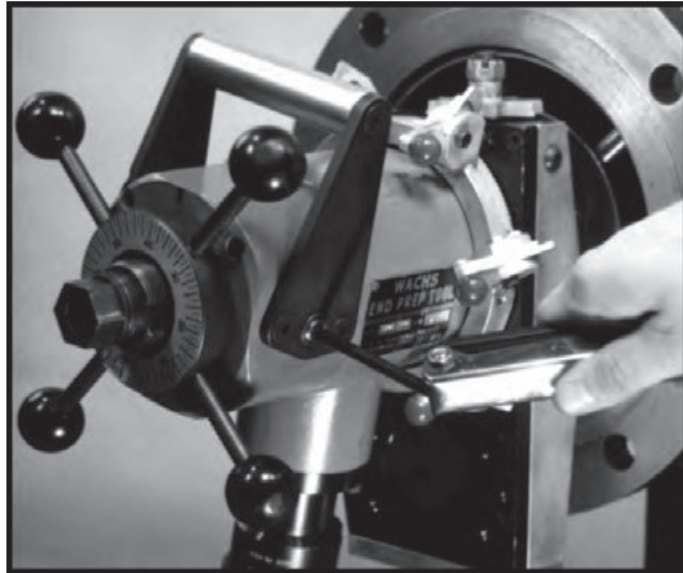

Figure 3-27.
20. Tighten the machine /mandrel locking set screws with the provided hex key set. (Figure 3-27)